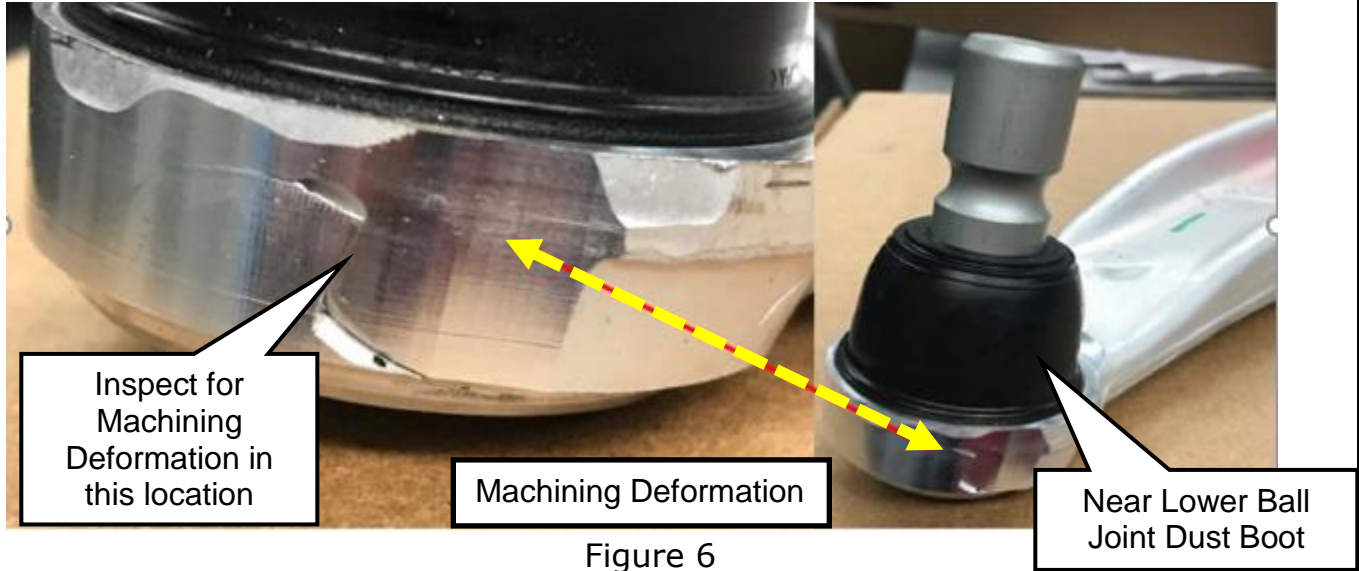

Figure 6
7. Inspect both TV Links for two conditions below (Figures 6 & 7):